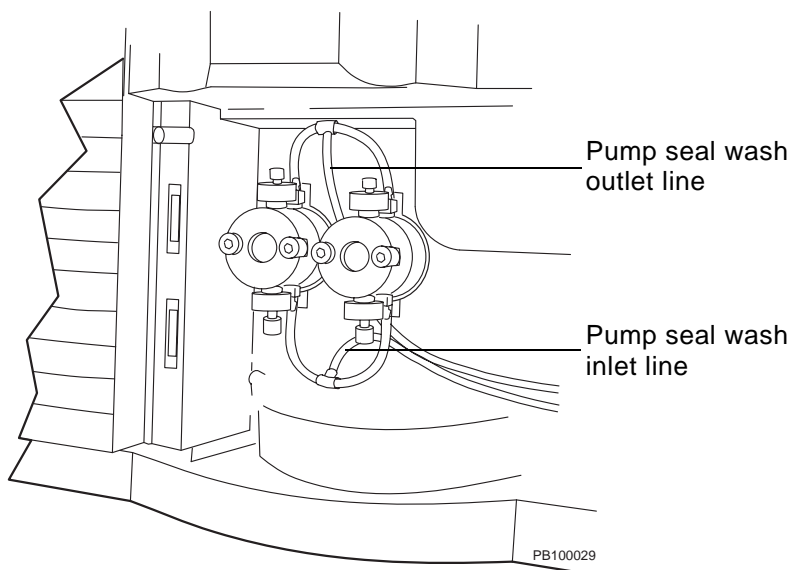

Figure 3-18 Pump Seal Wash Lines
1. Locate the two pump seal wash lines as they emerge from the pump heads in the lower right panel of the workstation. Pump seal wash lines are urethane tubing, and are not bundled together with the buffer/solvent lines (Figure 3-18).